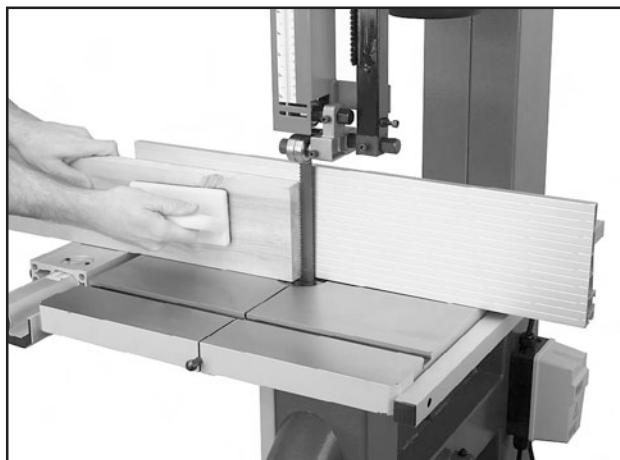

Figure 64. Resawing lumber.
Resawing (**Figure 64**) is the process of cutting a board into two or more thinner boards. The maximum board width that can be resawn is limited by the maximum cutting height of the bandsaw.
6. Using push paddles and a push stick, keep pressure against the fence and table, and slowly feed the workpiece into the moving blade until the blade is completely through the workpiece (see Figure 64).